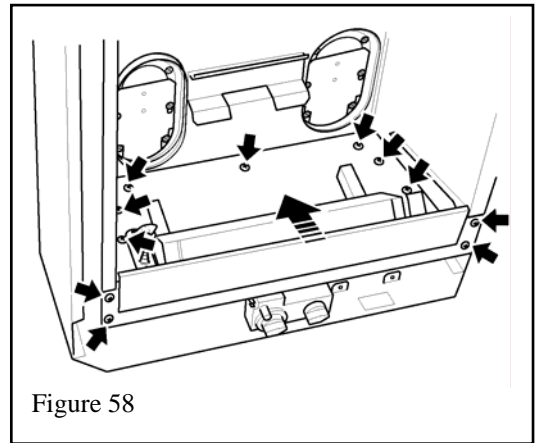

Figure 58
2. Refit the burner module using the 11 screws previously removed (Figure 58).